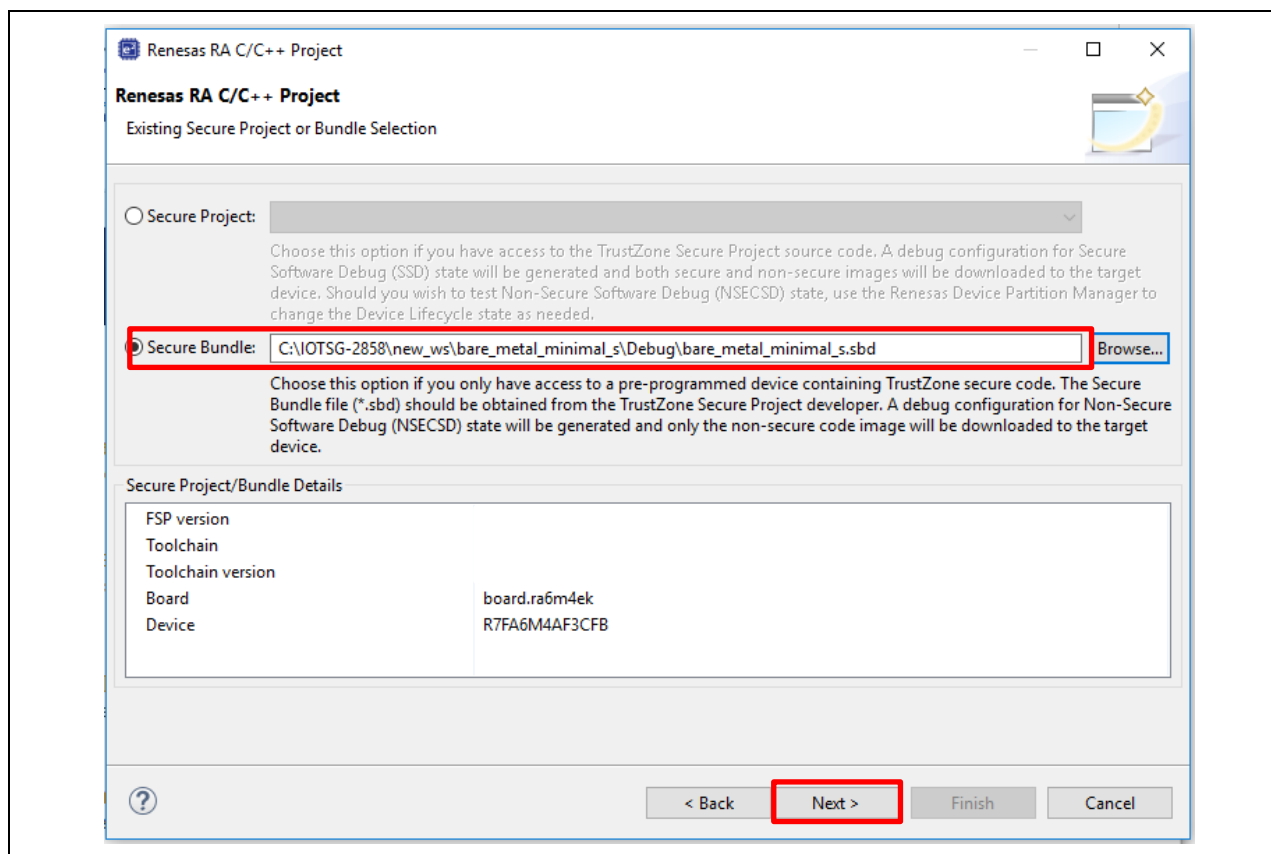

**Figure 42. Development Flow for Developing in NSECSD State**
- See Figure 42 for details on the general flow to support Non-secure project development in the NSECSD state.
For the Split Project Development Model, the Non-secure application developer receives the MCU in the NSECSD state. As mentioned towards the end of last section, special handling is needed to enable development in the NSECSD state. Figure 42 is a summary of the general flow for developing in the NSECSD state.